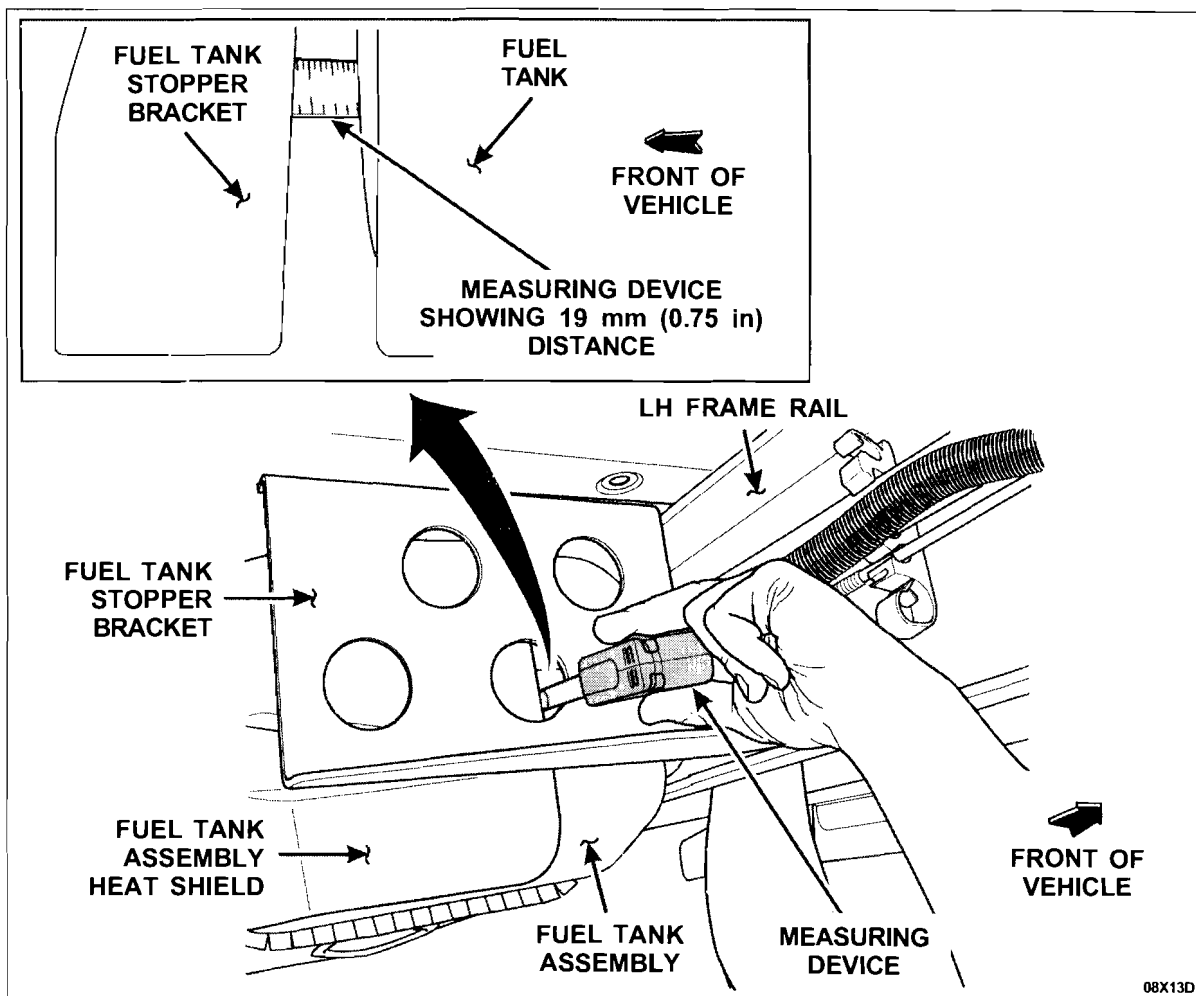

FIGURE 4
Using a measuring device, position the fuel tank stopper bracket so that the fuel tank stopper bracket (fuel tank side) is 19 mm (0.75 in) from the fuel tank assembly. See Figure 4.
7. Remeasure and confirm the distance of 19 mm (0.75 in) from the fuel tank stopper bracket (fuel tank side) to the fuel tank assembly. See Figure 4.